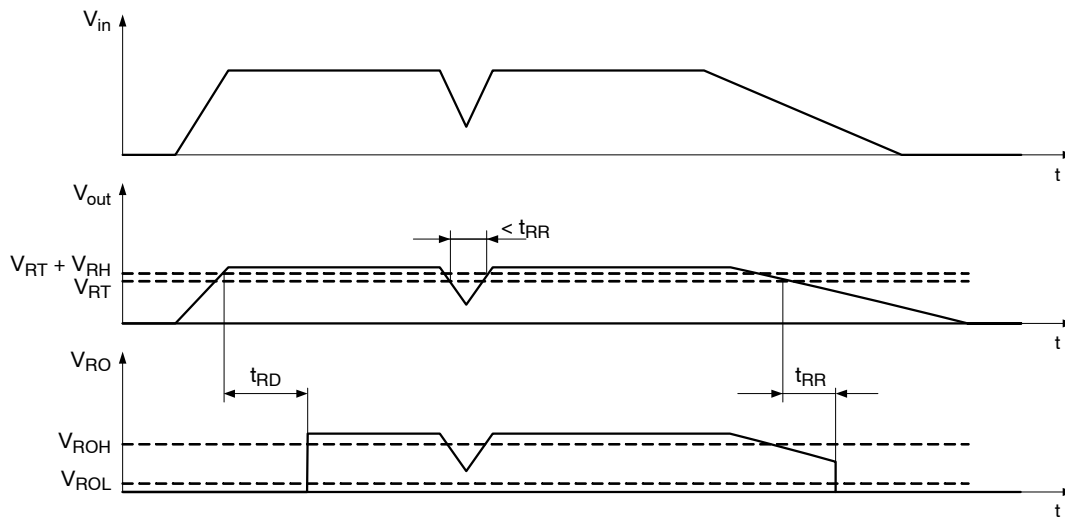

Figure 33. Reset Function and Timing Diagram
The NCV8772 regulator is self-protected with internal thermal shutdown and internal current limit. Typical characteristics are shown in Figure 4 to Figure 33.
A reset signal is provided on the Reset Output (RO) pin to provide feedback to the microprocessor of an out of regulation condition. The timing diagram of reset function is shown in Figure 33. This is in the form of a logic signal on RO. Output voltage conditions below the RESET threshold cause RO to go low. The RO integrity is maintained down to $V_{out} = 1.0$ V. For 5 V voltage option, the Reset Output (RO) circuitry includes internal pull-up (30 k Ω) connected to the output (V_{out}). No external pull-up is necessary.